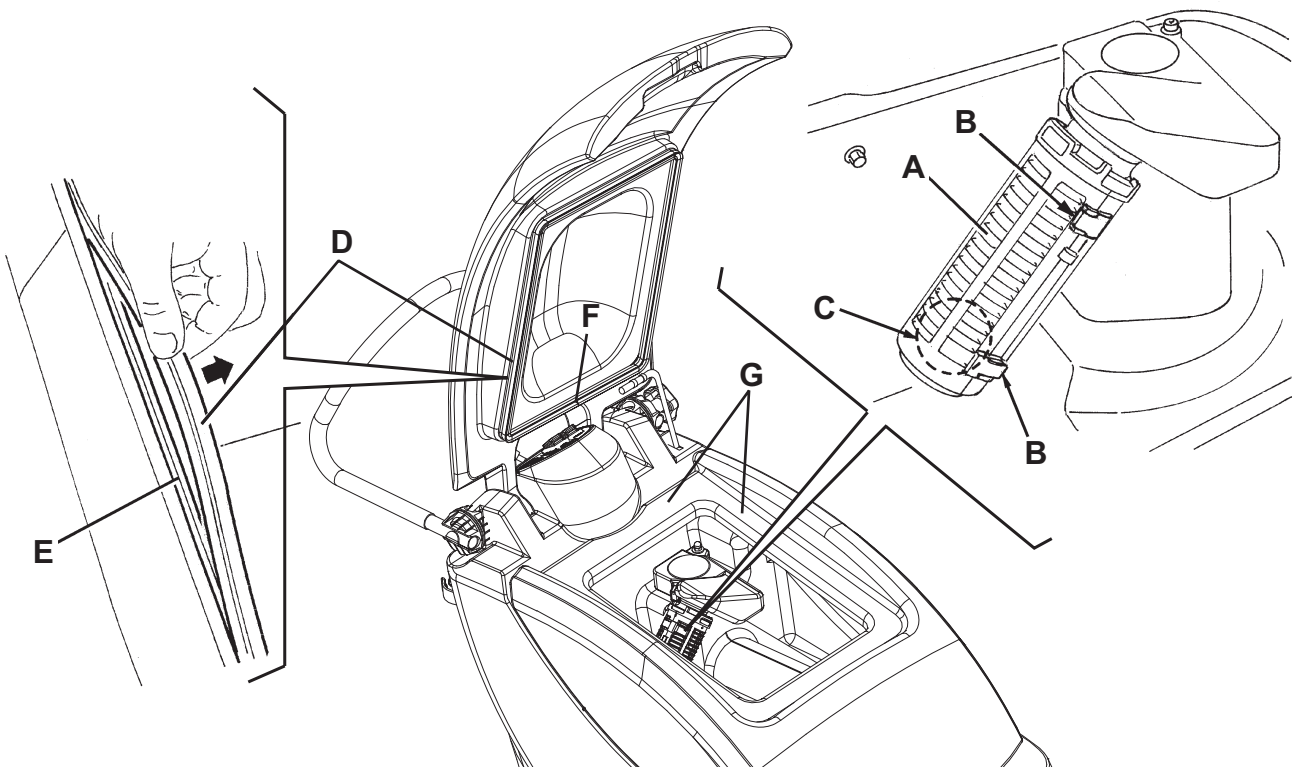

Figure 7
3. Open the cover (6), then clean and wash the cover, the tanks (31 and 32) and the vacuum grid (46) with clean water. Drain the water from the tanks with the drain hose (16) and the valve (18).
4. If necessary, release the fasteners (B, Fig. 7) and open the grid (A); recover the float (C), clean all the components and then reinstall them.
5. Check the recovery tank cover gasket (D) for integrity.